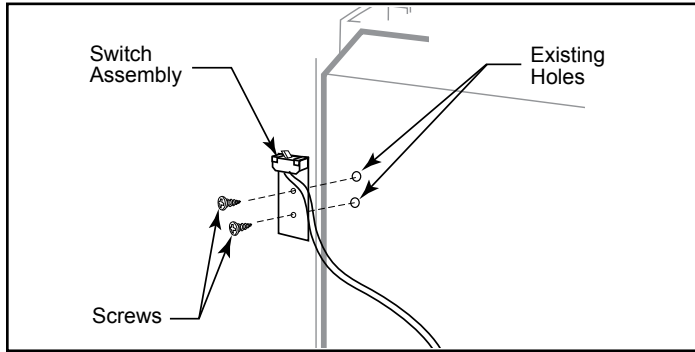

Fig. 15 - Attach switch assembly to rear shroud.
1. Attach switch assembly to left rear side of stove shroud using two screws and existing holes in shroud. (Fig. 15)